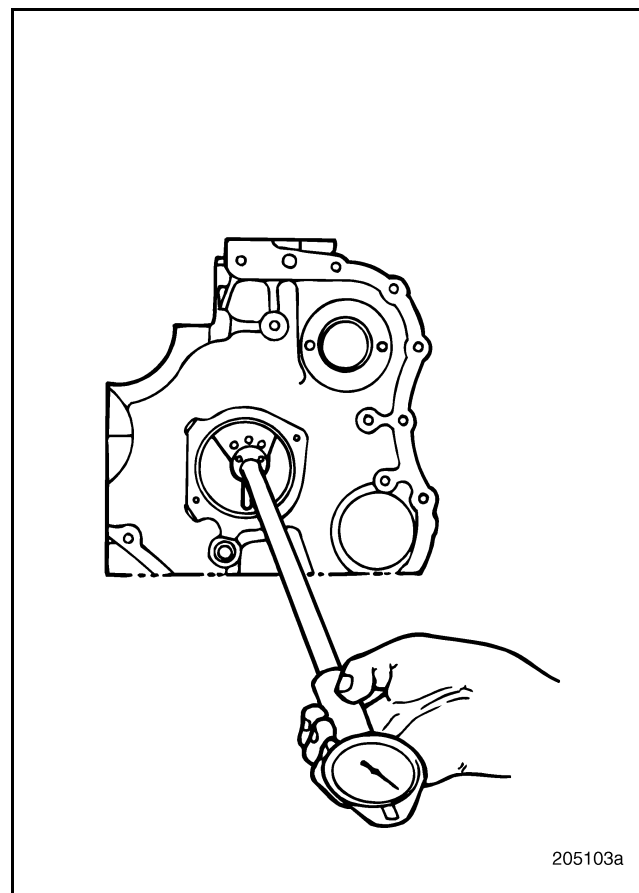

Figure 203 — Camshaft Bushing ID Check
6. After all of the bushings are in place, measure the ID of each to ensure that they are not undersize because of burrs on the OD caused by installation (Figure 203). Refer to the "Fits and Limits" charts in the SPECIFICATIONS section for the correct bushing ID dimensions.